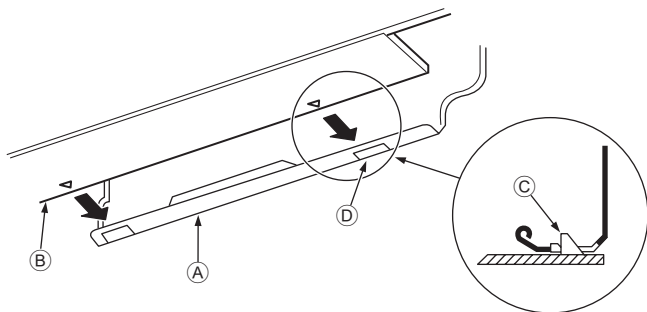

Fig. 3-15
3. While inserting the refrigerant piping and drain hose into the wall penetration hole (penetration sleeve), hang the top of the indoor unit to the mount board ①.
5. Fasten by pushing the bottom part of the indoor unit onto the mount board ①. (Fig. 3-15)
- \* Check that the knobs on the bottom of the indoor unit are securely hooked into the mount board ①.